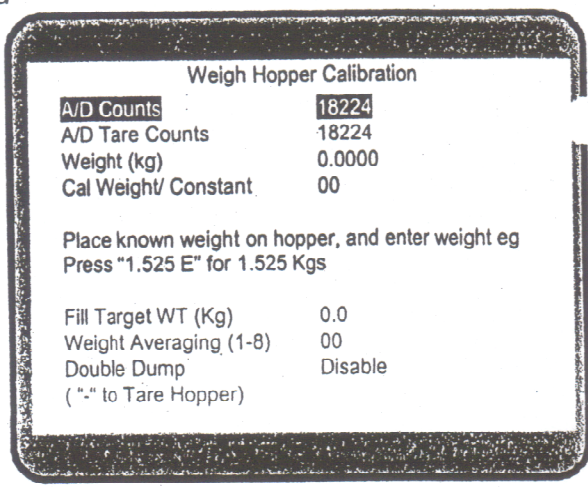

Fig. 4
- With the weigh hopper empty, allow the "A/D Counts" (Fig. 4) to stabilise and tare the weigh hopper by pressing **0**.